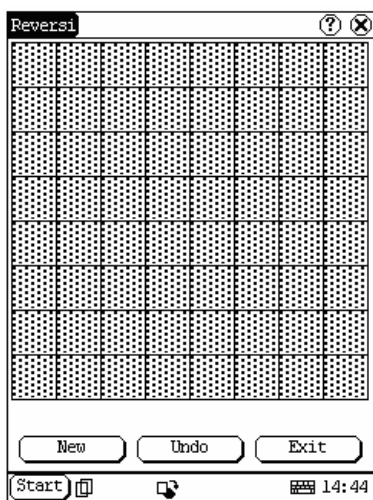

Figure 4-17
- 1) In the pop-up menu of 'Game', select 'Reversi' to open the Chess Board. (See Figure 4-17)